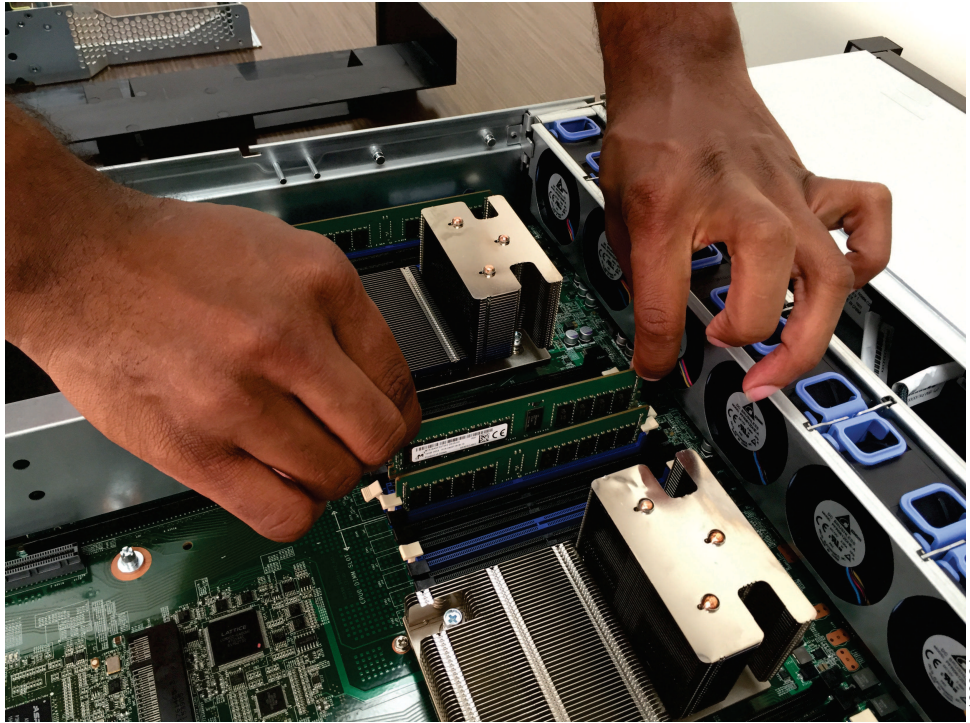

Figure 75. Removing a memory module
6. Lift the DIMM up and out of the slot, as Figure 75 on page 92 shows.